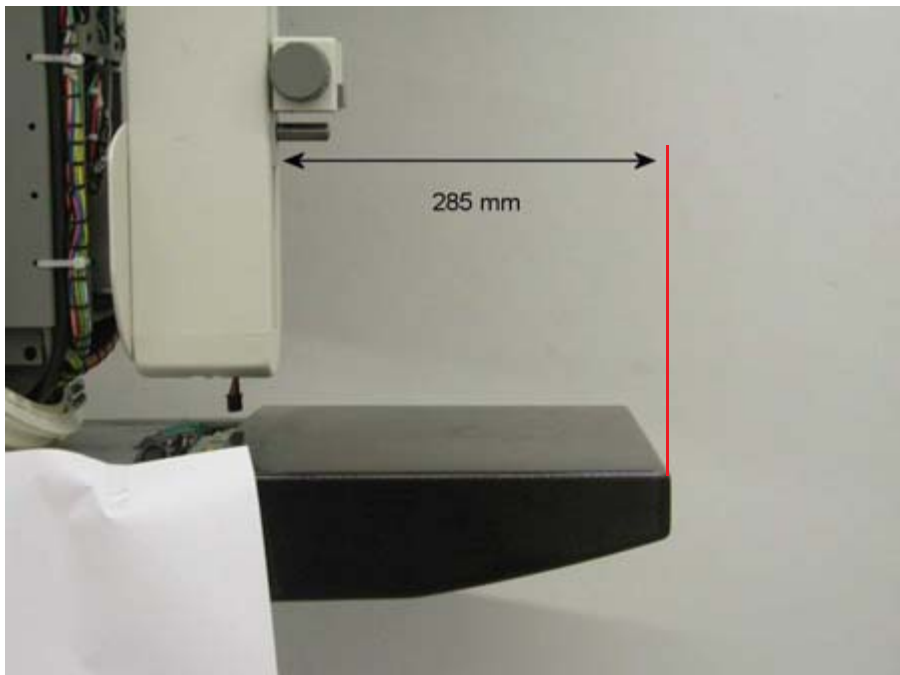

Fig. 11: Distance
- Manually move the compression plate upward. There must be 285 mm between the carbon-fiber plate edge and the metal sheet under the guide for the compression plate holder (Fig. 11 / p. 32).